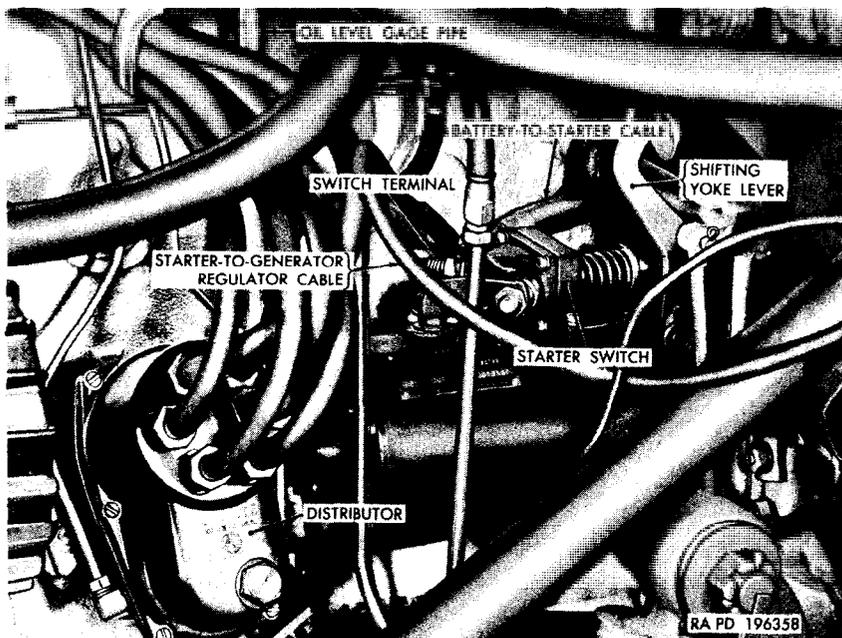
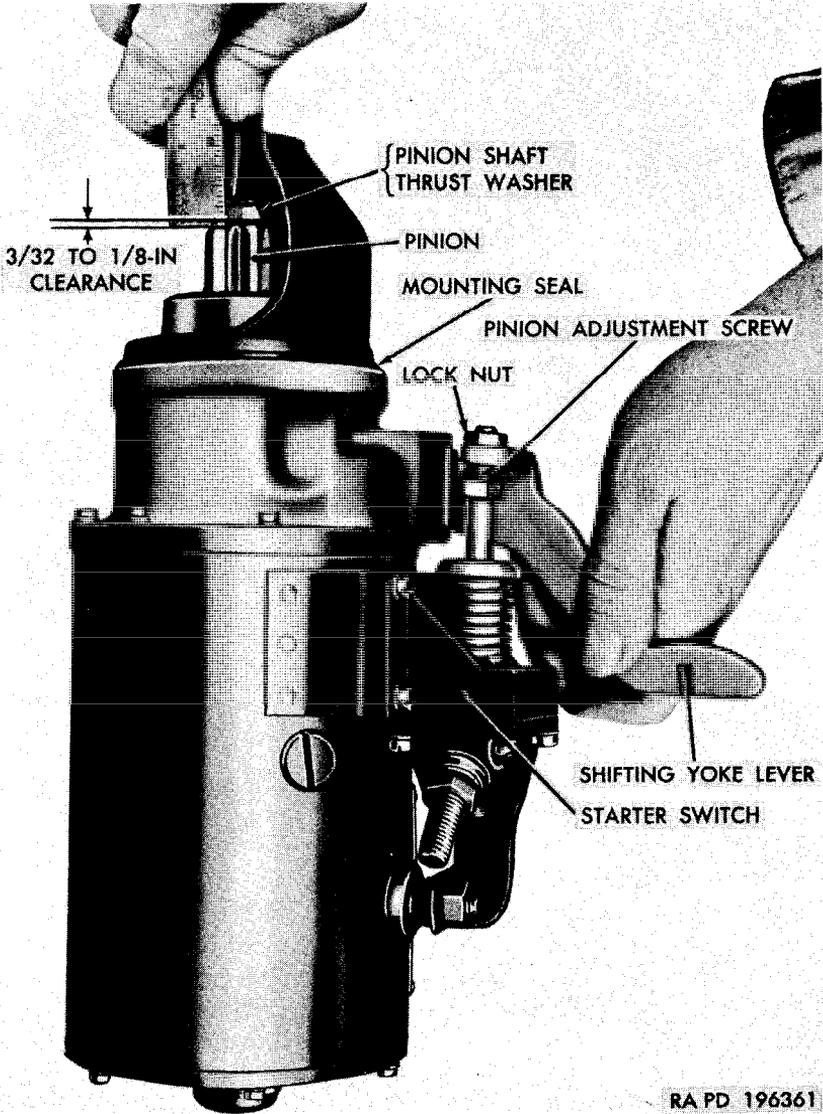

Figure 125. Starter installed.
Figure 128. Pinion adjustment for late-type starter.
- (2) Remove the distributor (par. 125a).
- (3) Unscrew the oil level gage pipe (fig. 125) from the cylinder block, and remove the pipe and gage.
- (4) Remove the nut from the starter switch terminal (fig. 125) and remove the battery-to-starter cable, starter-to-regulator cable, and the starter-to-slave receptacle cable (if so equipped) from the starter switch terminal.
- (5) Remove the two nuts and lockwashers that secure the starter to the studs in the clutch housing and remove the starter. Remove and discard the starter mounting seal (fig. 128).
- (1) If the two starter mounting studs were removed (*a*(6) above) install new $\frac{7}{16}$ -14NC x $\frac{7}{16}$ -20NF x $1\frac{11}{16}$ studs in the clutch housing with the coarse thread end in the housing. Tighten the studs.
- (2) Install a new starter mounting seal (fig. 128) and place the starter (fig. 125) in position on the clutch housing. Install the two $\frac{7}{16}$ -inch lockwashers and $\frac{7}{16}$ -20NF nuts. Tighten the nuts.
- (3) Connect the battery-to-slave receptacle cable (if so equipped), the starter-to-regulator cable, and battery-to-starter cable to the front terminal of the starter switch (fig. 125) and install the terminal nut. Tighten the nut.
- (4) Install the oil level gage and gage pipe through the pipe support and screw the pipe into the opening in the cylinder block.
- (5) Install the distributor (par. 125*b*).
b. Replacement (Late-Type Switch) (fig. 128).
- (1) Remove the starter (par. 158a).
b. Adjust Starter Pinion (Late-Type). Place the starter in a vertical position and push the shifting yoke lever (fig. 128) to the forward (engaged) position. While holding the lever firmly, measure the distance between the starter pinion and the pinion shaft thrust washer. This measurement should be from $\frac{3}{32}$ to $\frac{1}{8}$ inch. If the clearance at this point is not within the specified limits, loosen the locknut on the pinion adjustment screw, and turn the screw as required until correct clearance is obtained. Turning the screw clockwise decreases the clearance and turning it counterclockwise increases the clearance. Tighten the adjusting screwnut after making the adjustment.